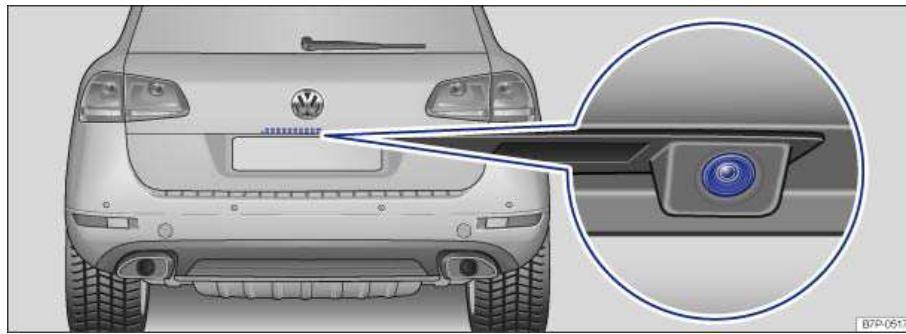

Fig. 284 In the rear hatch: Location of the Rear Assist camera.
A camera in the rear hatch =>fig. 284 assists the driver while backing up or maneuvering. The camera image is shown together with orientation lines and assistance areas projected by the system on the screen of the factory-installed radio or navigation system.
- ✓ A reliable and clear image is displayed and the Rear Assist camera lens is clean. ⇒ fig. 284.
The Rear Assist camera ⇒ **fig. 284** (close-up) only shows two-dimensional images. Due to the lack of depth of field, it may be difficult or impossible to identify protruding objects or recesses in the road, for example.
Keep camera lens ⇒ fig. 284 clean and free from snow and ice.